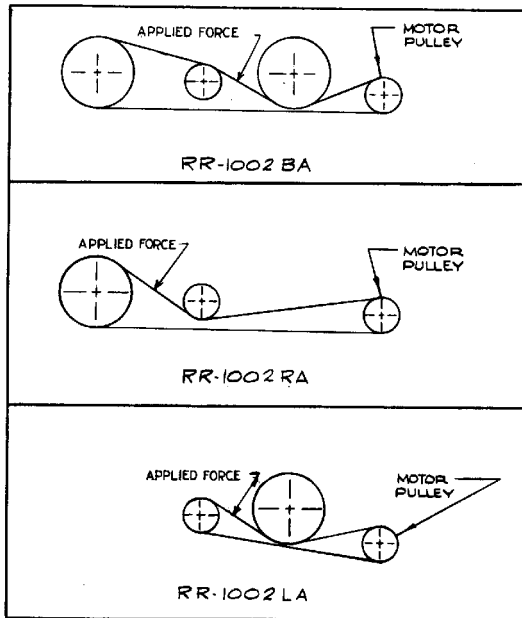

Figure 5-7.
- d. Install the new belt. Figure 5-7 illustrates the routing of the belt.
- f. Apply a force of 6 ounces  $\pm$  1 ounce as shown in Figure 5-7. This should produce a deflection of approximately 1/8 inch.